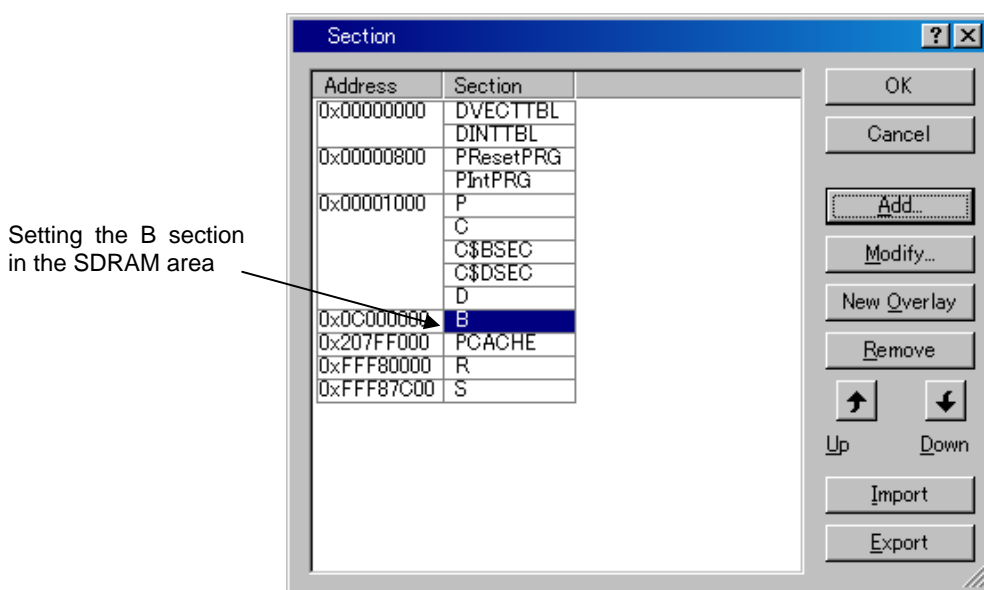

Figure 5.3.16 Section Change (2)
- (2) In [Section] dialog box, set the B section in the SDRAM area as shown in Figure 5.3.16.